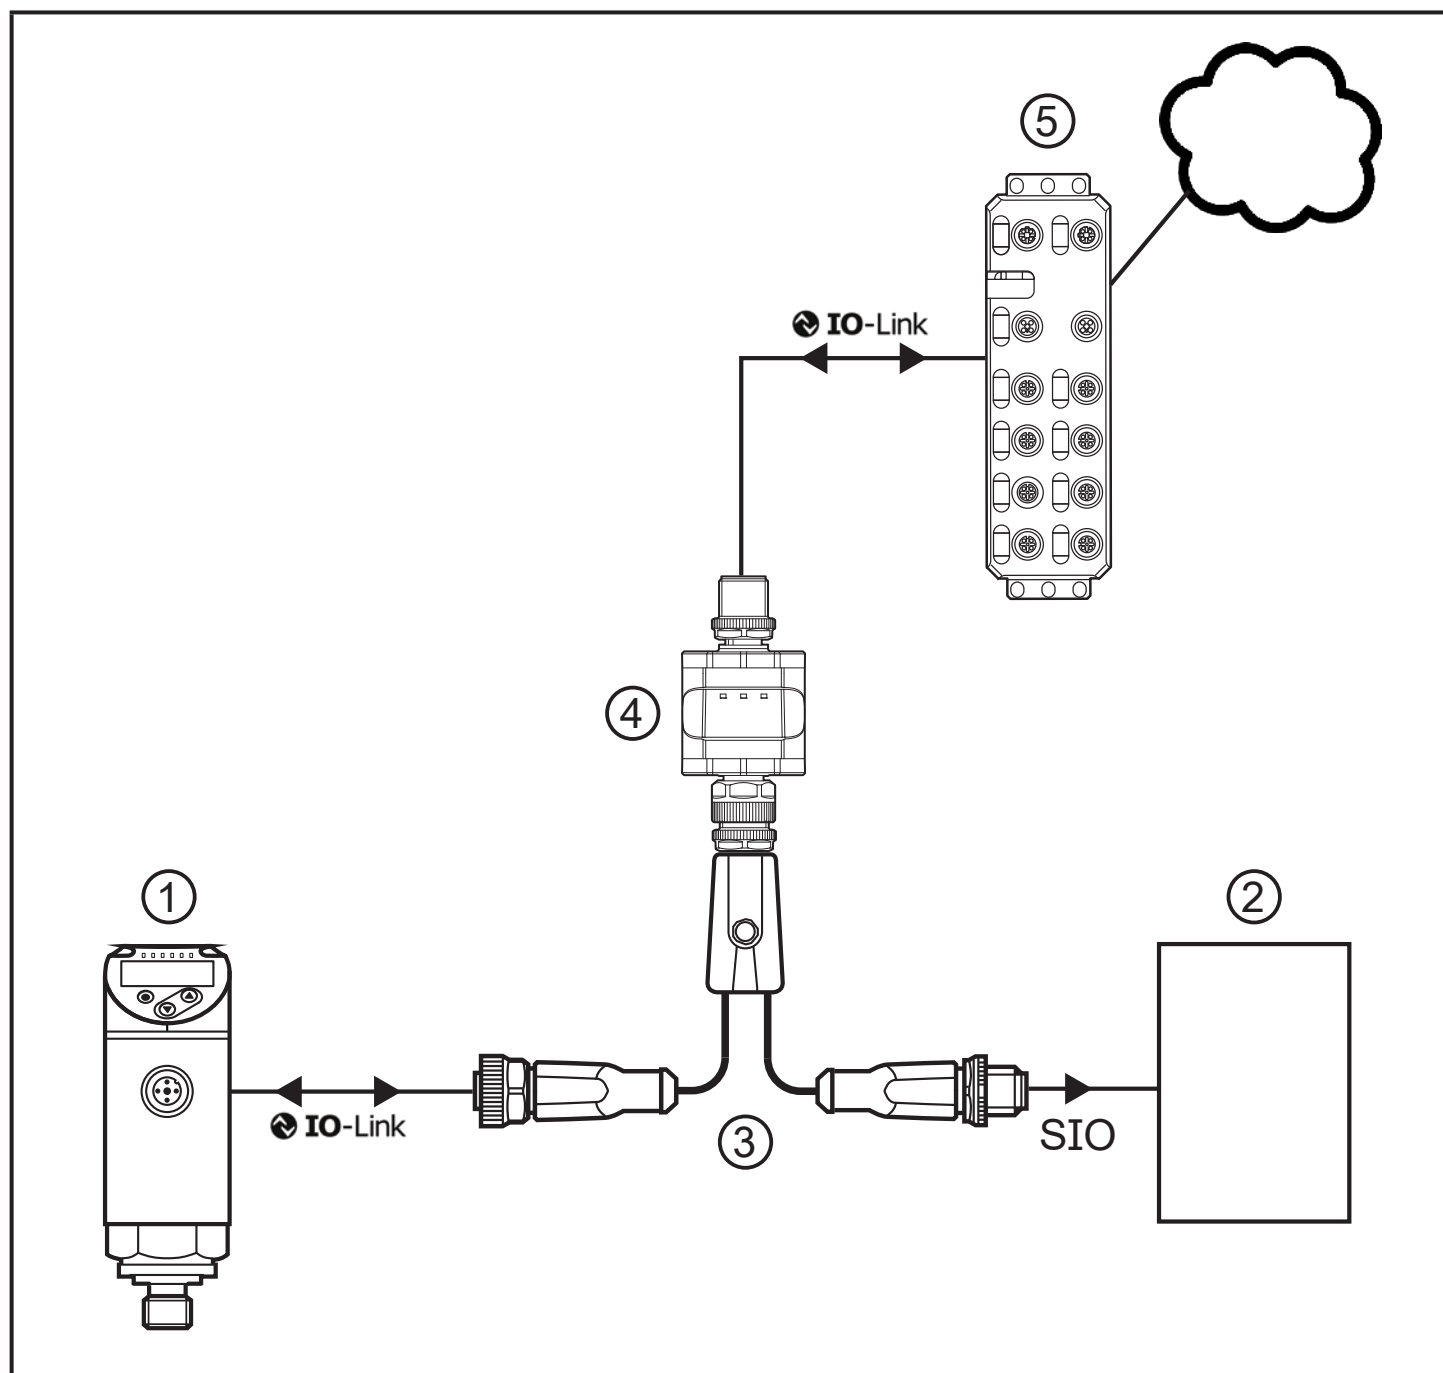

Fig. 4.2: Example of a system integration
In the configuration of fig. 4.2 the data splitter (4) switches the IO-Link device (1) initially operated in the SIO mode to the IO-Link mode, connecting the newly established IO-Link communication to the IO-Link master (5).
When the device is delivered the IO-Link master ((5) in fig. 4.2) only allows read access to the connected IO-Link device (1). Write access is not possible until the write protection has been removed.
Maximum distance between (3) and (2), fig. 4.2: → Technical data of the connection cables used and of the other connected components. Maximum 30 m.
- ▶ Connect the device to the IO-Link device, installation and IO-Link master using the Y-cable EVC843 according to fig. 4.2.